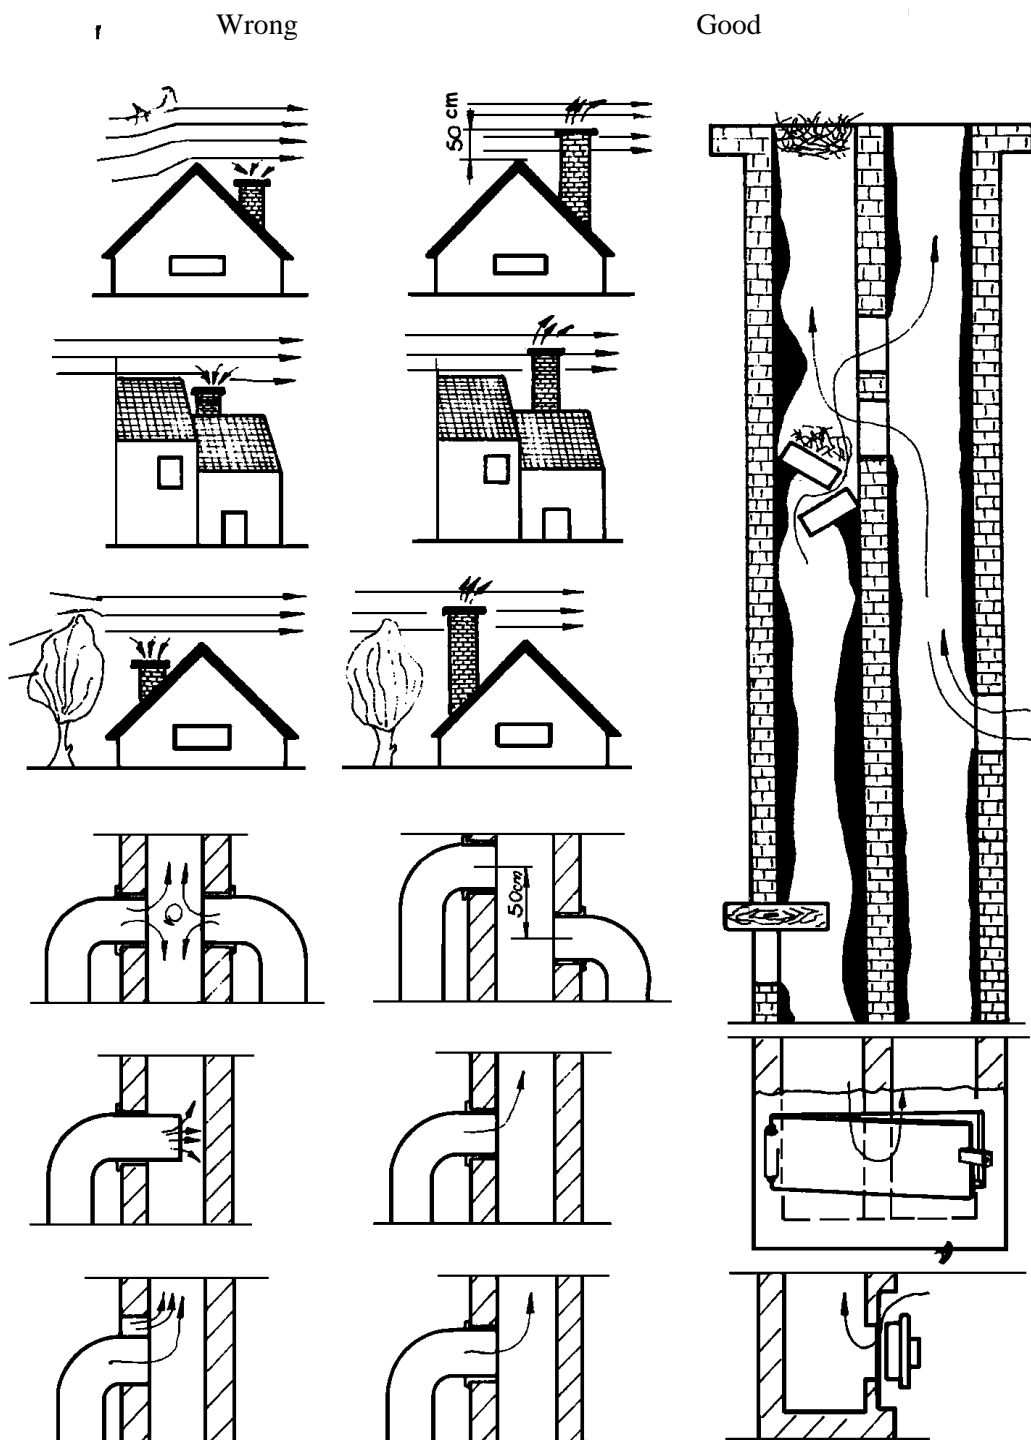

Figure 4
- safety valve (Fig. 7, pos. 5 and Fig. 8, pos. 3) which **MUST** be installed on an R1/2" connection (Fig. 4, pos. 4.)
Chimney is properly functioning, if it meets the following conditions (Fig. 4):